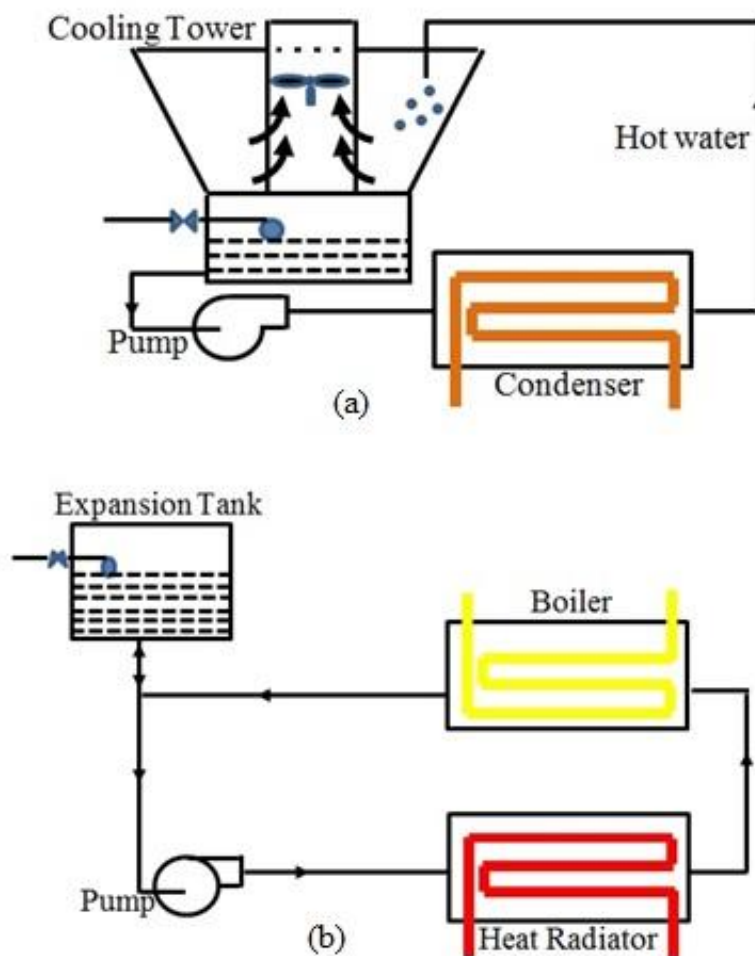

Figure 4-1 (a)Open type piping system, (b) closed type piping system
1. Open system ..... figure 4-1-a
2. Closed system ..... figure 4-1-b